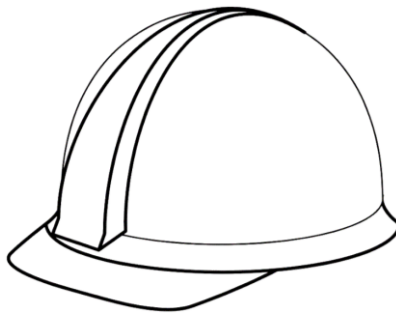

Fig 2.2
- (b) Fig. 2.2 shows a safety helmet worn by workers at a construction site.
- (i) State the type of structure for the safety helmet shown in Fig. 2.2.